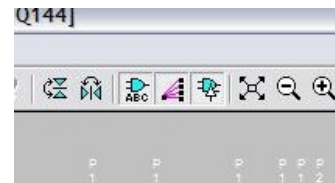

Figure 21
2. Make sure that the Toggle Labels, Toggle Rubberbands and Toggle Resource Graphics buttons are selected as in figure 21.